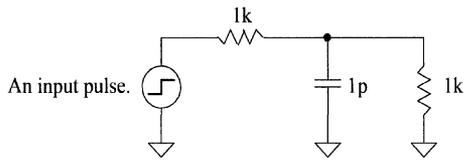

Figure 1.28 Circuit used in Problem 1.16
- 1.16 Simulate the operation of the circuit in Fig. 1.28. What happens if you use a pulse frequency that’s too high? What happens if your simulation time is too short? Give examples to illustrate your understanding.